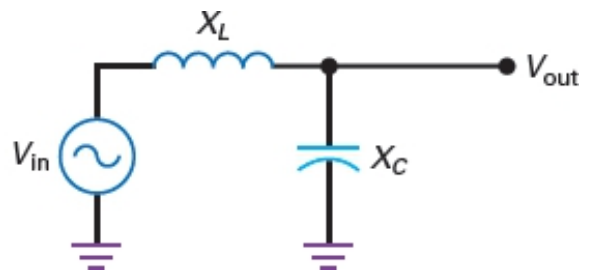

Figure-51 AC-equivalent circuit
- The first requirement of a well-designed choke-input filter is to have X_C at the input frequency be much smaller than R_L . When this condition is satisfied, we can ignore the load resistance and use the equivalent circuit of Figure-51.
- In Figure-51, the circuit acts like a reactive voltage divider. When X_L is much greater than X_C , almost all the ac voltage is dropped across the choke. In this case, the ac output voltage equals: